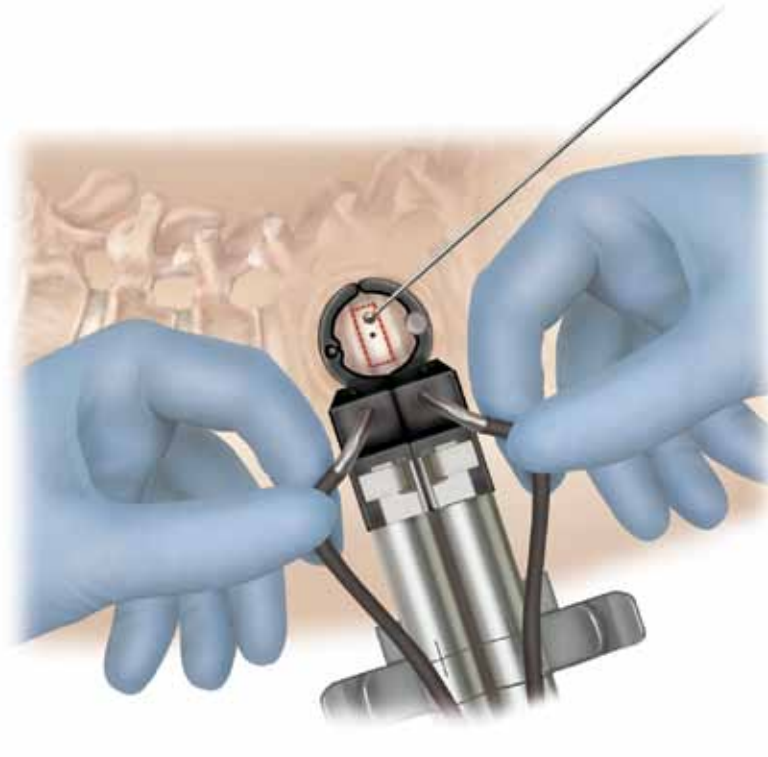

Figure 26
Step 1 The MAST QUADRANT® Illumination System is attached to the retractor blades by placing the metal tips of the light source into the holes on the top of the blades and then sliding the tips under the built-in retaining sleeves (**Figure 26**).